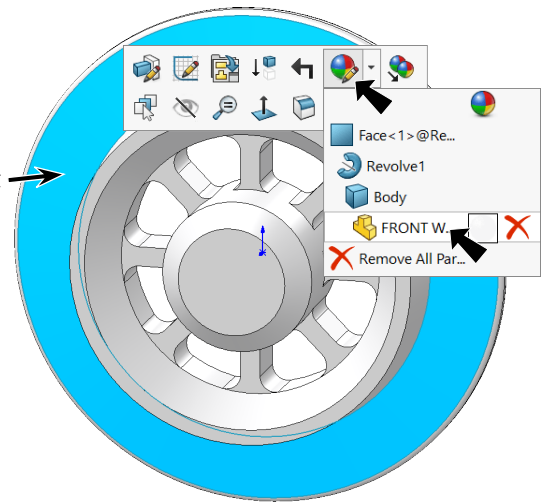

Fig. 33
Step 1. Click the part, click **Appearance Callout**  on the context toolbar and click **FRONT WHEEL** , **Fig. 33**.